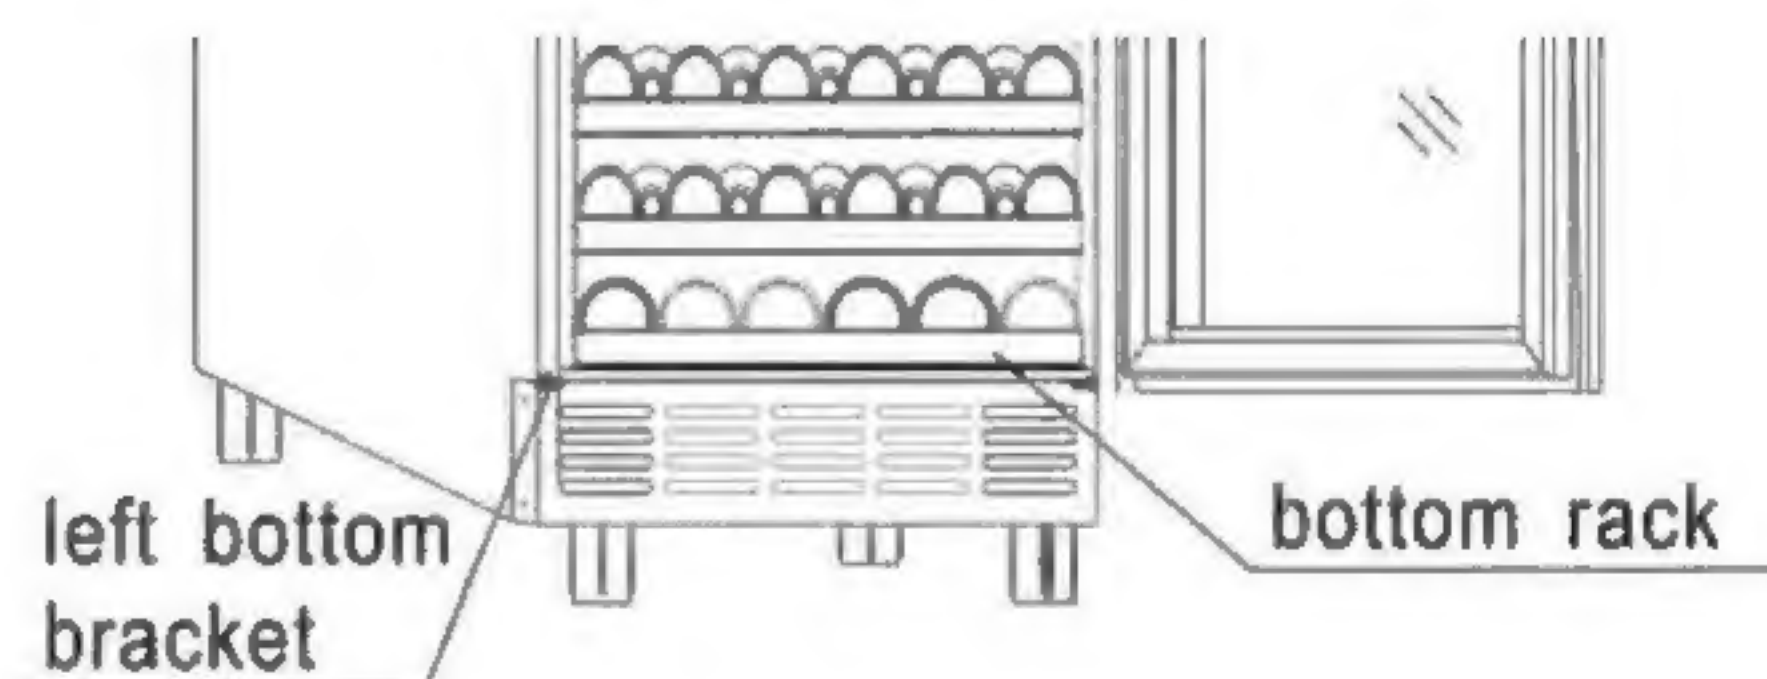

Figure 2
1. The bottom rack can not be removed. (See figure 2)
2. When opening door for the first time, please remove the support board on the left bottom bracket. (See figure 2)